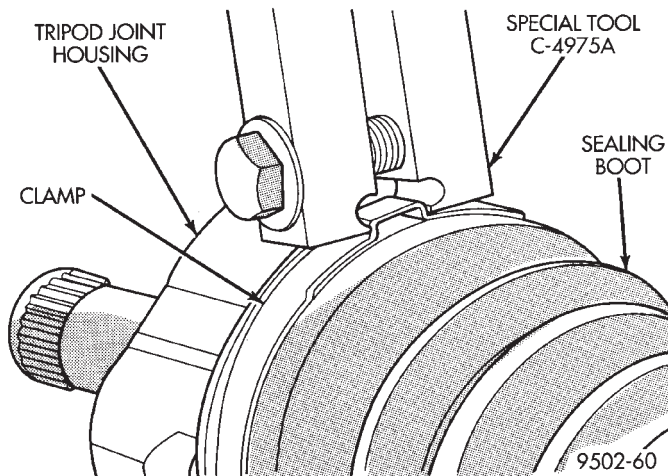

Fig. 38 Crimping Tool Installed on Sealing Boot Clamp
- Place crimping tool C- 4975-A over bridge of clamp (Fig. 38).